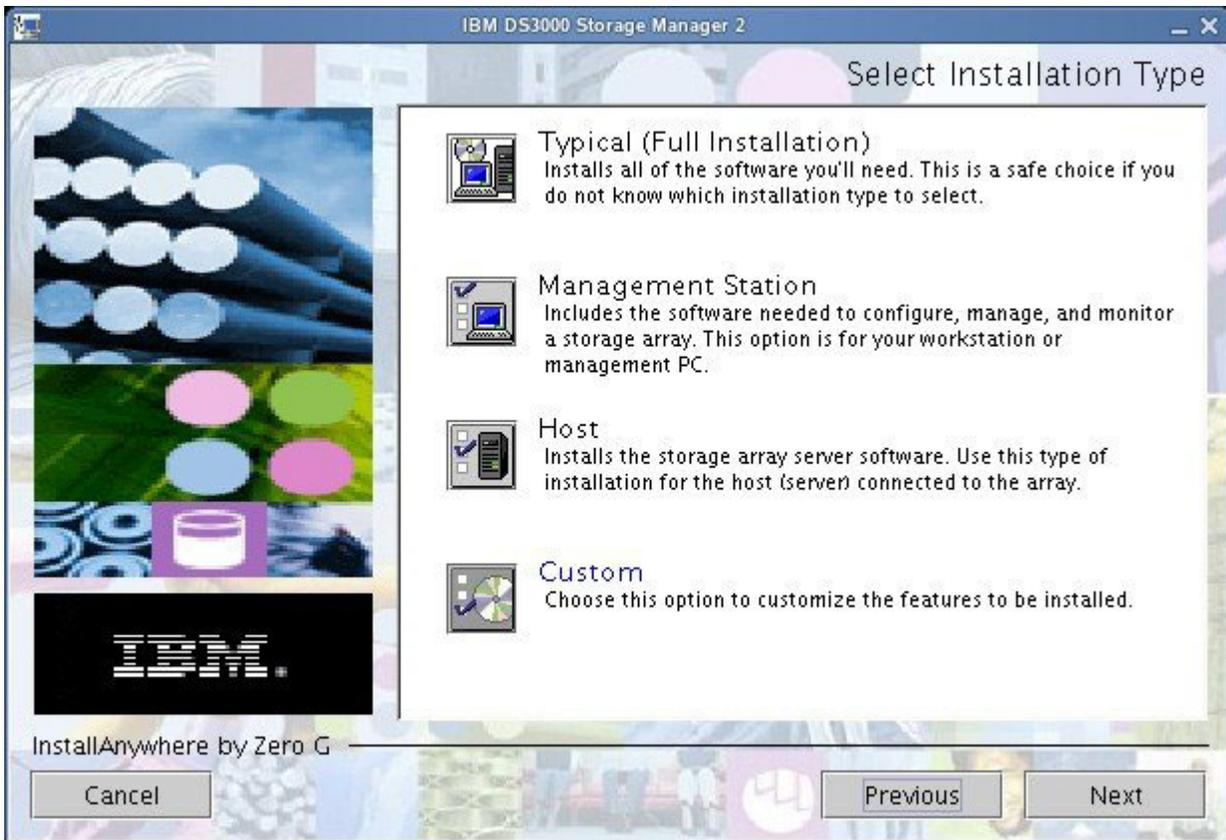

Figure 9. Select Installation Type window
5. Follow the instructions in each window of the wizard. When you select the installation type, you can choose one of the following options (see Figure 9 on page 48):